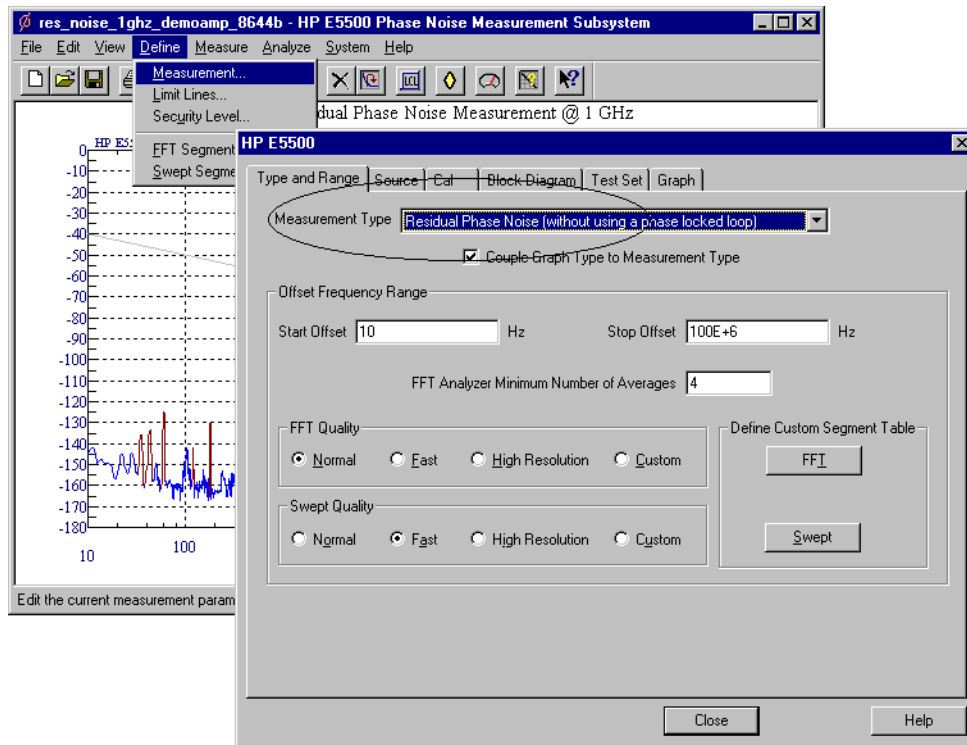

Figure 9-3 Navigate to Residual Phase Noise
- 6 From the Measurement Type pull-down, select **Residual Phase Noise (without using phase lock loop)**. See Figure 9-3.